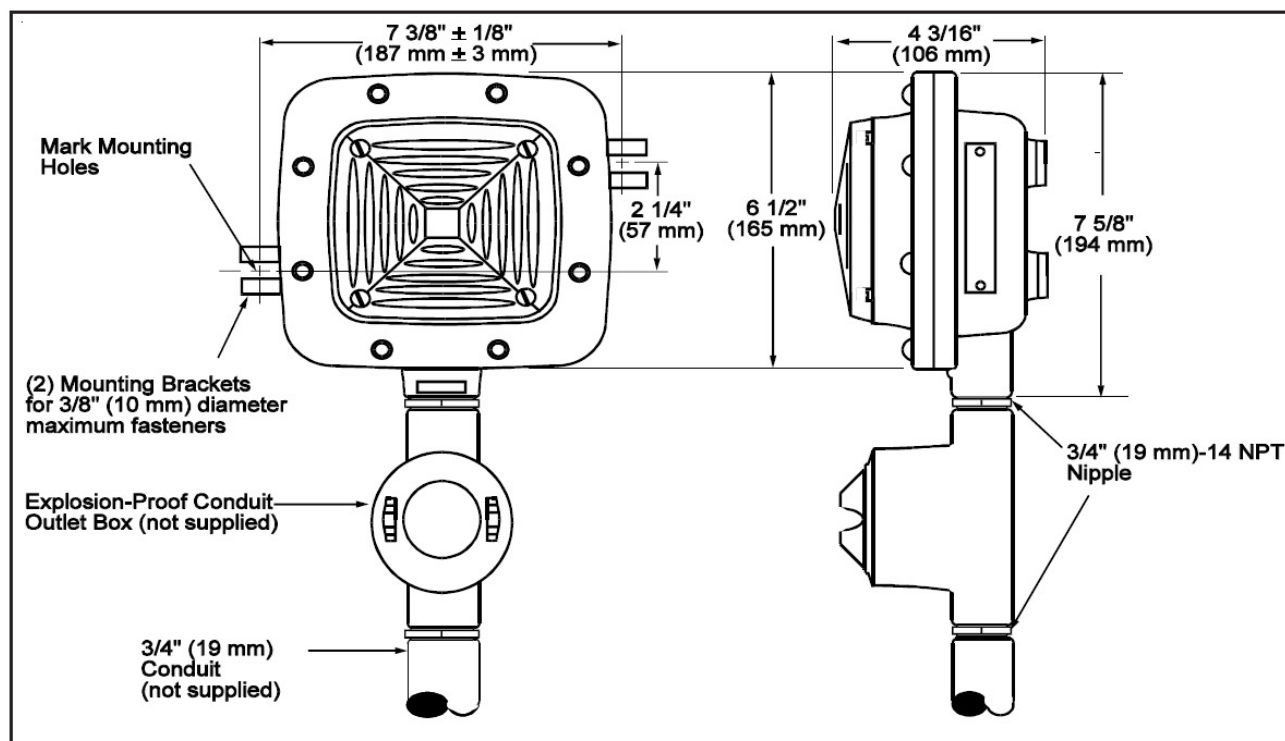

Figure 1. Signal Mounting Details
1. Mark two mounting holes per dimensions in Figure 1. Secure Adaptahorn to solid surface using the furnished mounting brackets and hard ware suitable for the mounting location. The 3/8" diameter fasteners and washers are not supplied.
2. See Figure 1. Power source connections are made in the explosion-proof outlet box. Remove outlet box cover.